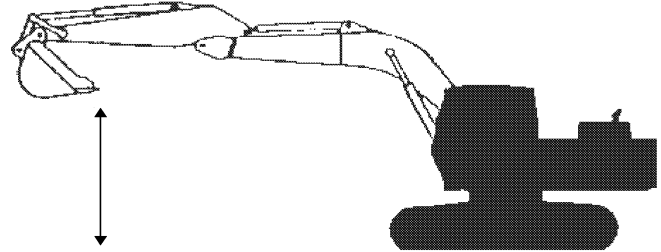

FIGURE 3.3
5. Raise Boom (extending the cylinders) at full stroke of the control and measure the time for the boom cylinder to reach the cushion stroke. Record the time. See Figure 3.3.
6. Lower the boom (retracting cylinders) at full stroke and measure the time for the bucket to reach ground level. Record the time. See Figure 3.3.